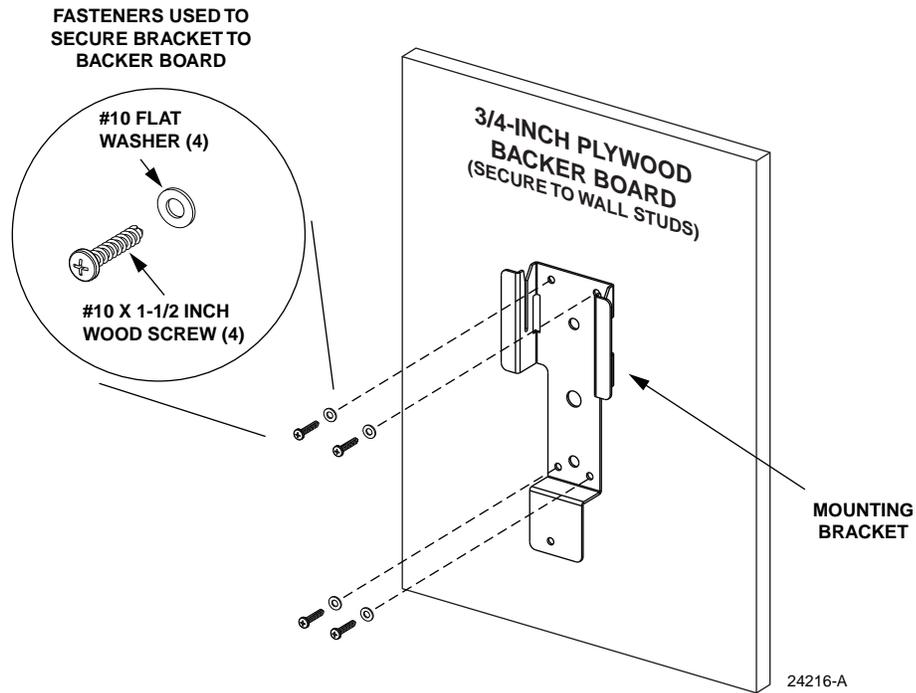

Figure 10. Securing Backer Board to Wall and Installing Mounting Bracket on Backer Board
1. Mount a plywood backer (not provided) on the wall in the location where the cabinet will be mounted as shown in Figure 10. Use whatever tools and fasteners are required to firmly secure the backer to at least two (minimum) of the wall's interior 2x4 studs.
- #10 x 1-1/2-inch wood screws (4)
- #10 flat washers (4)